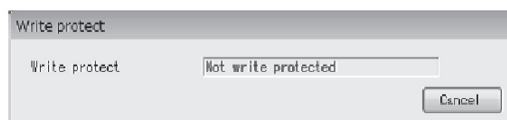

Fig.28
- ⑩ If you click  button on the tool bar or "Chart and Recording" - "Active" from menu, chart display and data logging are terminated.
- ① Click "Process Variables (V)" in the menu at the top of the screen, and then select and click "Write protect" to display the following window (Fig. 28).